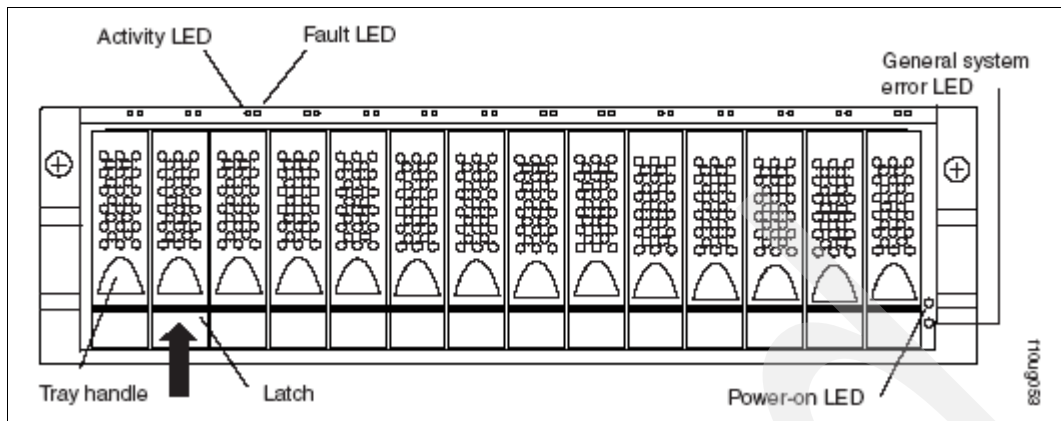

Figure 5-78 TS7510 Cache Module and Cache Controller front controls and indicators
1. Check the 3955 Model SV5 Cache Controller and 3955 Model SX5 Cache Module front controls and indicators. See Figure 5-78.